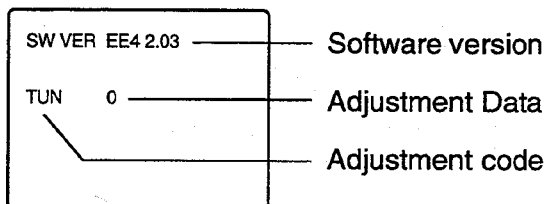

fig. 2.1B Options adjustment display
2. Press the "\*" button to select either the VCJ or OPTION adjustment display (figs. 2.1B and C).